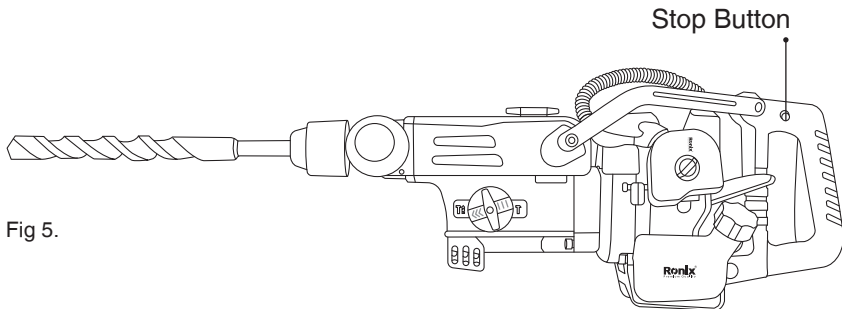

Fig 5.
2. Press the red button (Stop button) to stop the machine. (See Figure 5)